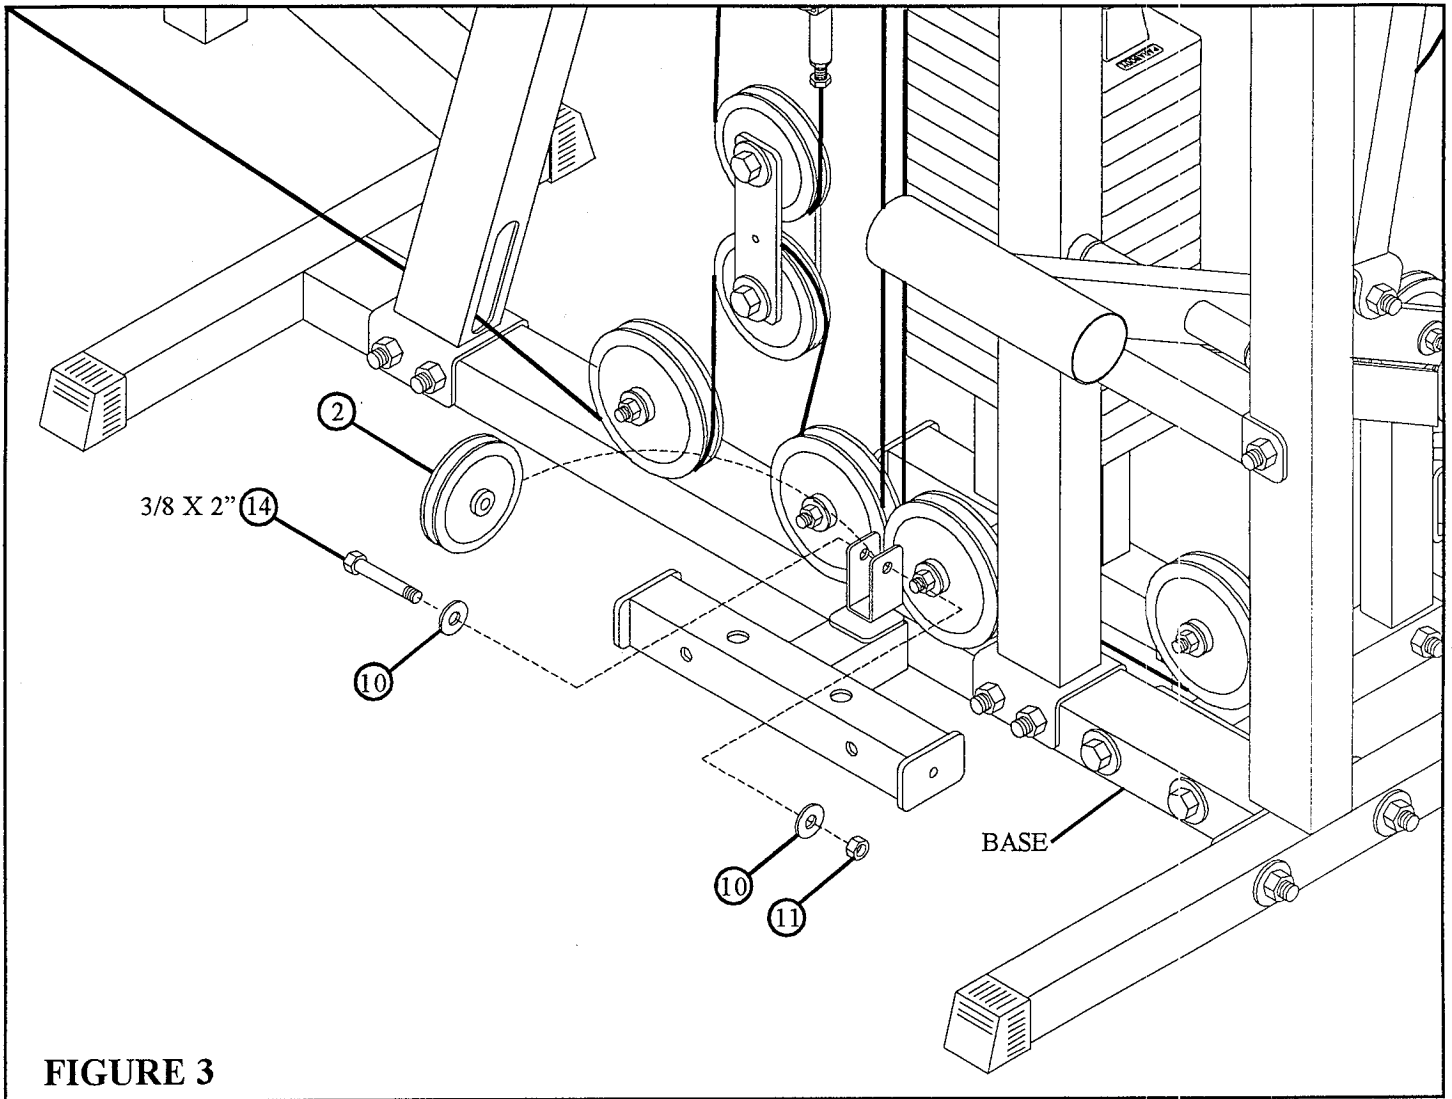

FIGURE 3
- If the 445103 SECOND STACK OPTION is not installed, the rear SHROUD opening must be removed. Apply pressure to the bottom of the SHROUD where the “V” groove is and carefully remove the weight stack opening on the SHROUD as shown in FIGURE 3.
- **SECURELY** attach one 3-1/2" PULLEY (2) to the BASE using one 3/8 X 2" BOLT (14), two 3/8" WASHERS (10) , and one 3/8" LOCK NUT (11). See FIGURE 3.